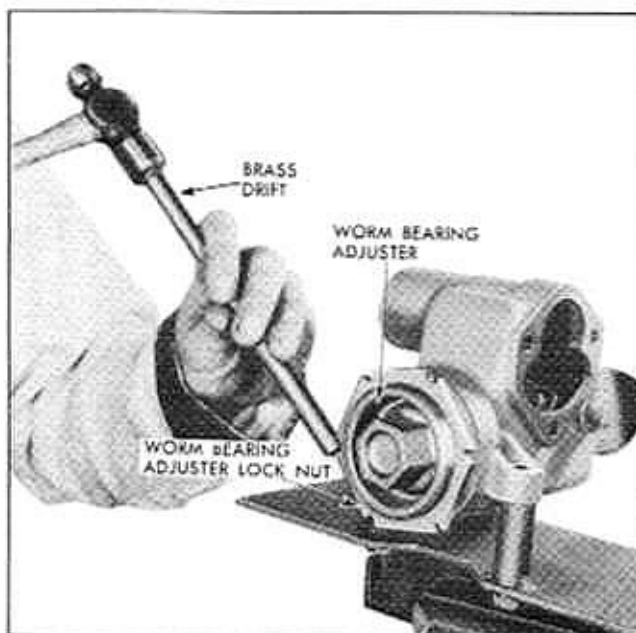
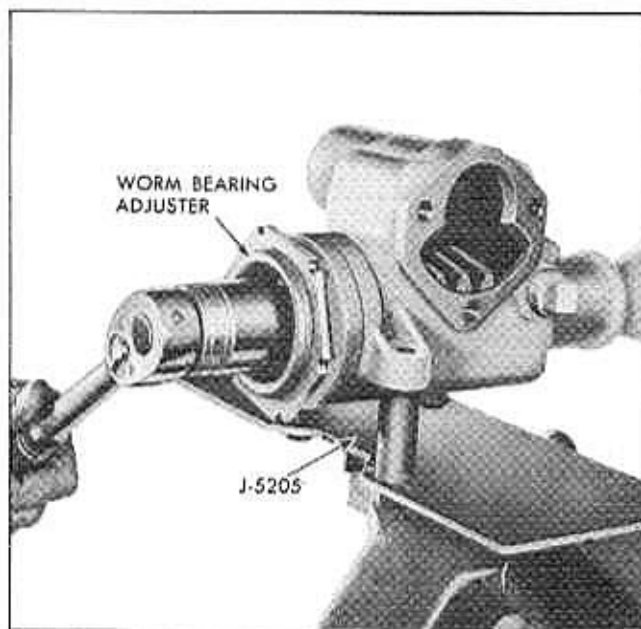

Fig. 9-4 Loosening Worm Bearing Adjuster Lock Nut
Fig. 9-5 Adjusting Worm Bearing Preload
6. Pull required should be between  $\frac{3}{8}$  and  $\frac{7}{8}$  pounds. To correct, loosen worm bearing adjuster lock nut with brass drift (Fig. 9-4) and turn adjuster to bring spring scale pull within limits (Fig. 9-5).
6. Loosen worm bearing adjuster lock nut with brass drift and remove adjuster and lower bearing (Fig. 9-4).